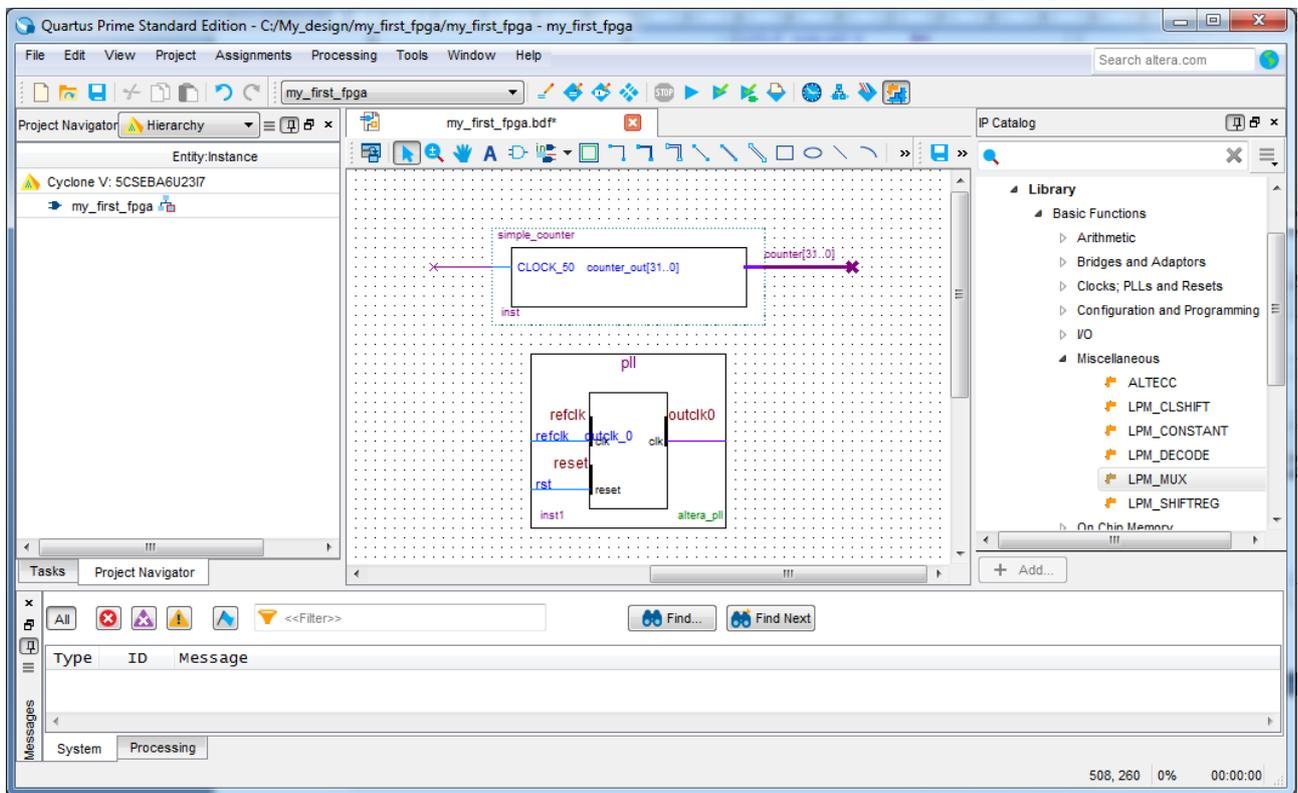

Figure 3-15 Place the PLL Symbol
10. Click OK and place the pll symbol onto the BDF to the left of the simple_counter symbol. You can move the symbols around by holding down the left mouse button, helping you ensure that they line up properly. See **Figure 3-15**.